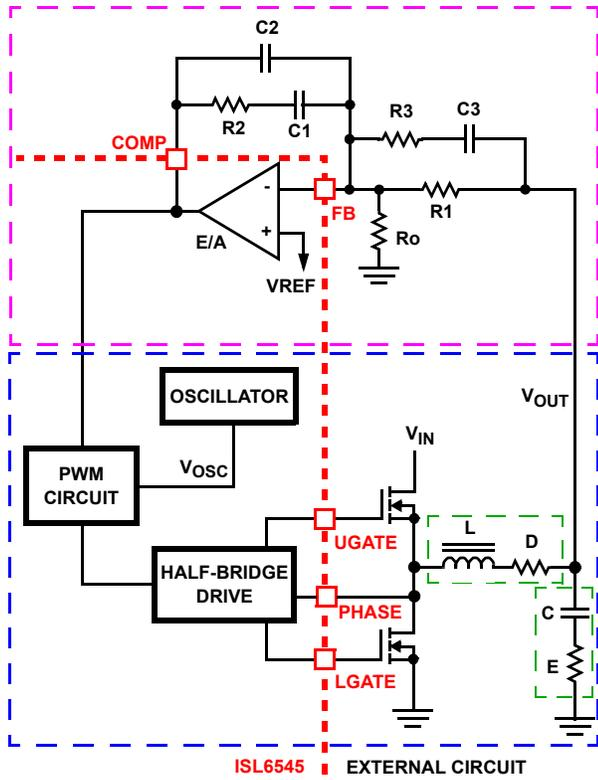

FIGURE 9. VOLTAGE-MODE BUCK CONVERTER COMPENSATION DESIGN
This section highlights the design consideration for a voltage-mode controller requiring external compensation. To address a broad range of applications, a type-3 feedback network is recommended, as shown in the top part of Figure 9.
Figure 9 also highlights the voltage-mode control loop for a synchronous-rectified buck converter, applicable to the ISL6545 circuit. The output voltage ( $V_{OUT}$ ) is regulated to the reference voltage,  $V_{REF}$ . The error amplifier output (COMP pin voltage) is compared with the oscillator (OSC) modified sawtooth wave to provide a pulse-width modulated wave with an amplitude of  $V_{IN}$  at the PHASE node. The PWM wave is smoothed by the output filter (L and C). The output filter capacitor bank's equivalent series resistance is represented by the series resistor E.
The compensation network consists of the error amplifier (internal to the ISL6545) and the external R1-R3, C1-C3 components. The goal of the compensation network is to provide a closed loop transfer function with high 0dB crossing frequency ( $F_0$ ; typically 0.1 to 0.3 of  $F_{SW}$ ) and adequate phase margin (better than 45°). Phase margin is the difference between the closed loop phase at  $F_{0dB}$  and 180°. The equations that follow relate the compensation network's poles, zeros and gain to the components (R1, R2, R3, C1, C2, and C3) in Figure 9. Use the following guidelines for locating the poles and zeros of the compensation network:
1. Select a value for R1 (1kΩ to 5kΩ, typically). Calculate value for R2 for desired converter bandwidth ( $F_0$ ). If setting the output voltage via an offset resistor connected to the FB pin, Ro in Figure 9, the design procedure can be followed as presented.